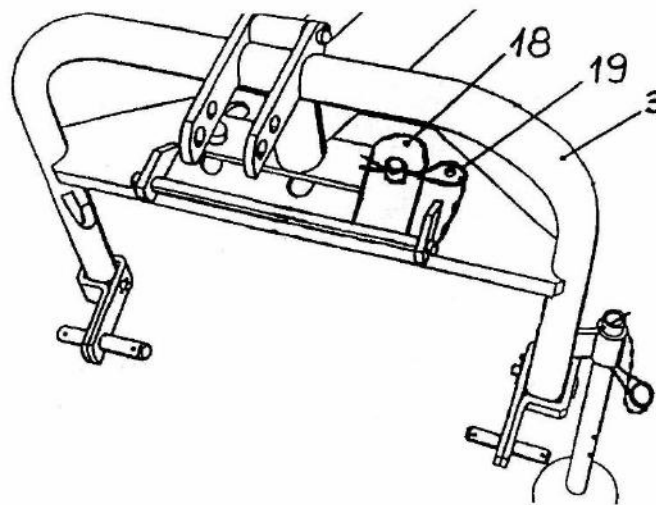

Fig. 10 Setting latch to transporting position.
Setting latch 18 to transporting position is presented in figure 10.
- set latch 18 to transporting position, as shown in figure 10